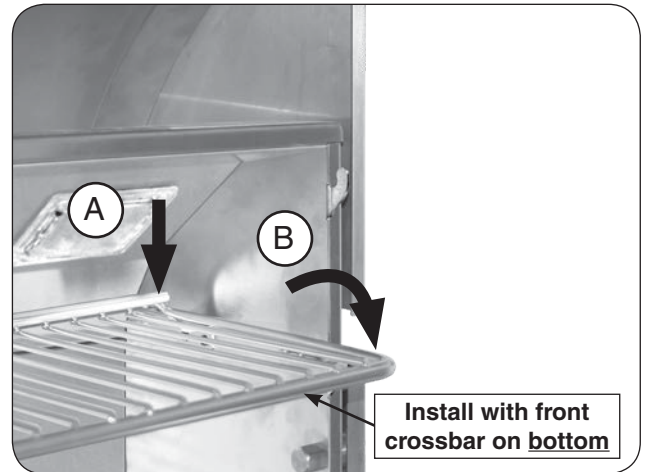

Fig. 23-2 Place warming rack for use
2. With the warming rack oriented as shown, carefully rest the rear of the rack onto the rear support plates (Fig. 23-2, A), then rest the warming rack arms onto the two lower hooks for use (Fig. 23-2, B). Repeat for the other warming rack.